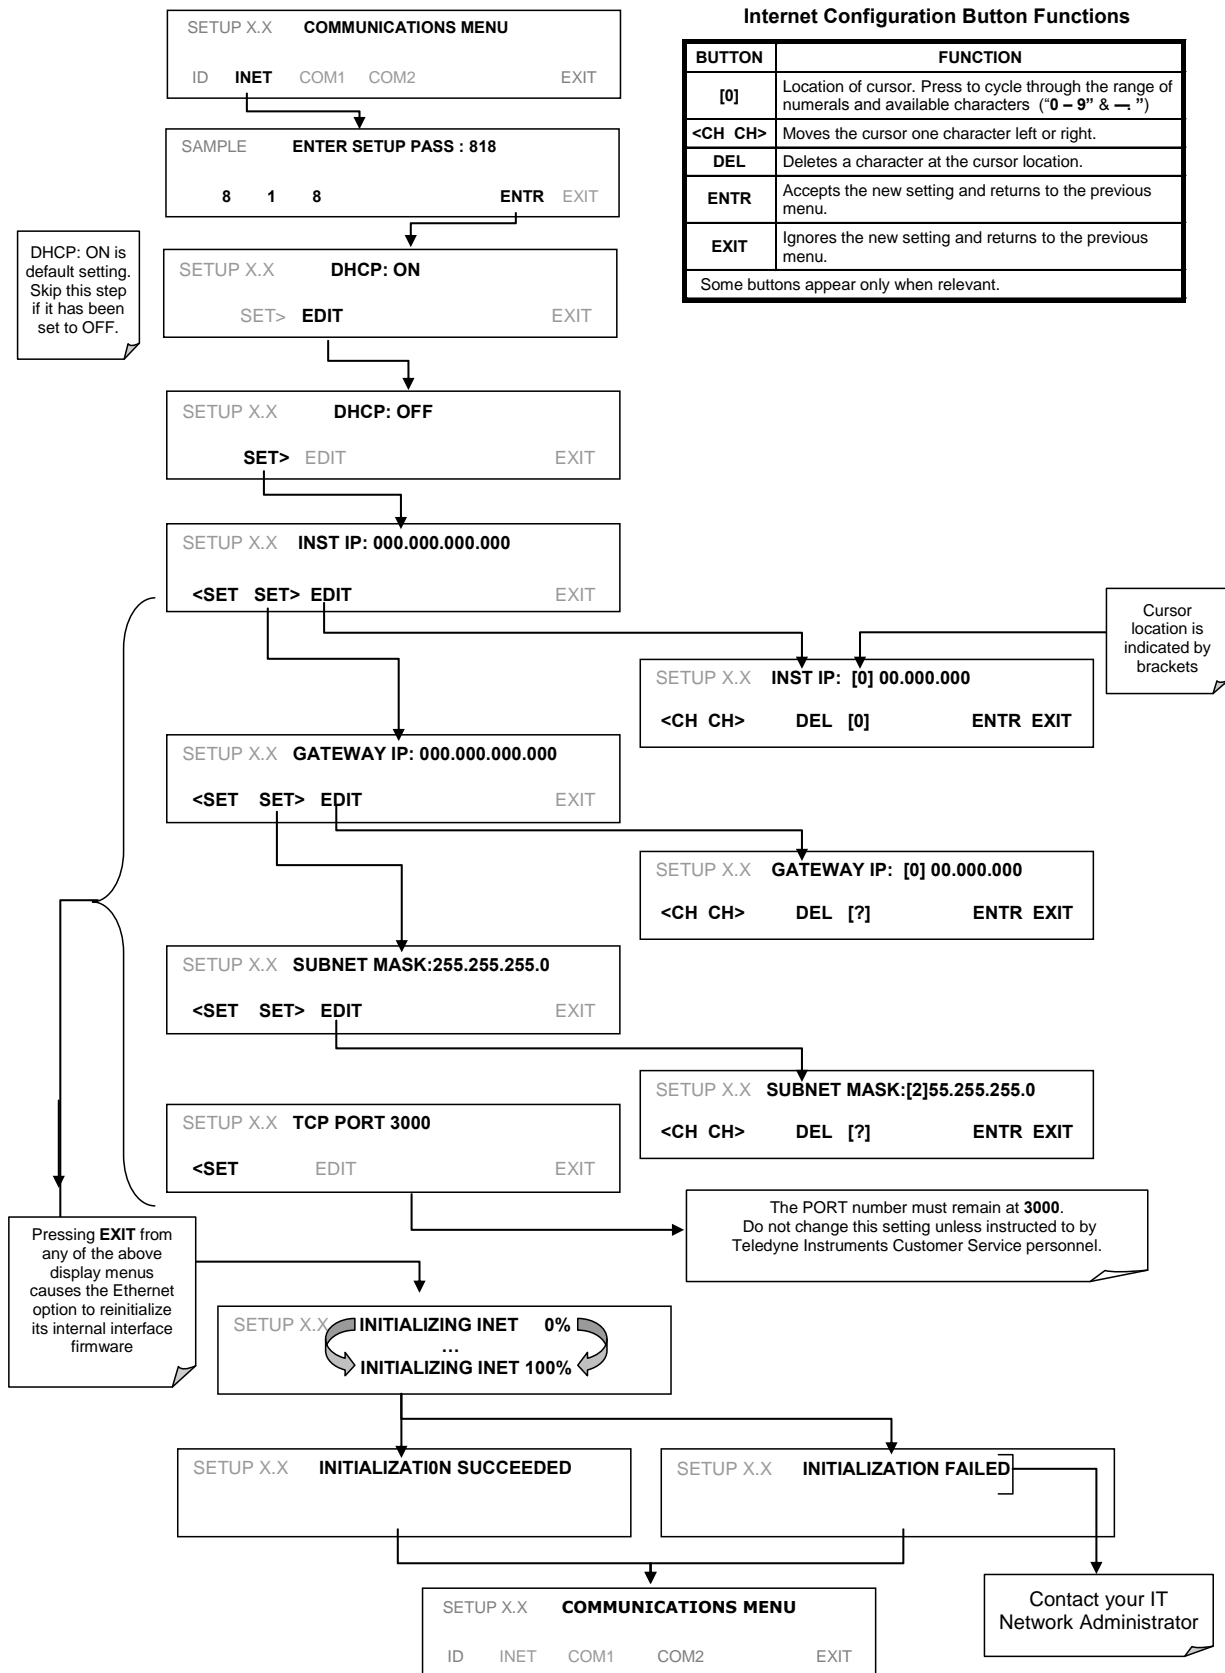

Figure 6-4. COM - LAN /Internet Manual Configuration
3. Enter the INET menu shown in Figure 6-4, turning DHCP mode to OFF and editing the Instrument and Gateway IP addresses and Subnet Mask to the desired settings (default settings shown in Table 6-3).